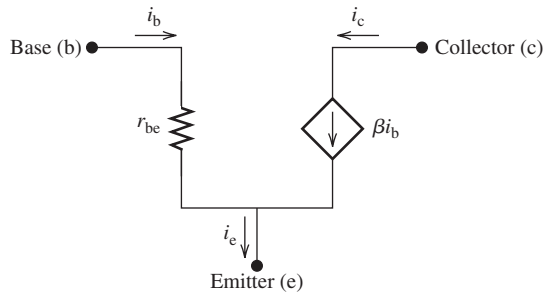
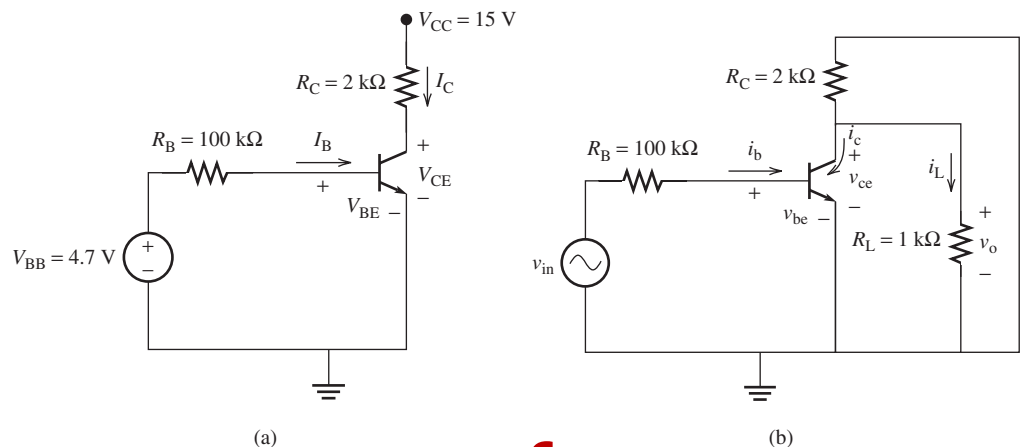

FIGURE 8.50 AC equivalent circuit (small-signal model) of an NPN transistor.
FIGURE 8.52 (a) DC and (b) AC equivalent circuit for the circuit shown in Figure 8.51.
In AC analysis, the transistor is replaced by an equivalent circuit called the *small-signal model*. This small-signal model is appropriate for a transistor if it operates in its active region. It should be noted that the transistor is used as a voltage and/or current amplifier only in its active region. Therefore, it is important to make sure that the transistor operates in this region prior to initiating this analysis. A small-signal model for an NPN transistor is shown in Figure 8.50.
4. Replace the transistor with its AC equivalent circuit depicted in Figure 8.50
First, calculate the Q-point from the DC analysis to check the region of operation. The DC equivalent circuit is shown in Figure 8.52(a). Applying the same procedure as in the previous section:
Now, replace C , V_{BB} , and V_{CC} with short circuits, which leads to the AC equivalent circuit shown in Figure 8.52(b). To complete the AC analysis, replace the transistor with the small-signal model given in Figure 8.50. The resistance, r_{be} , is calculated using Equation (8.43):